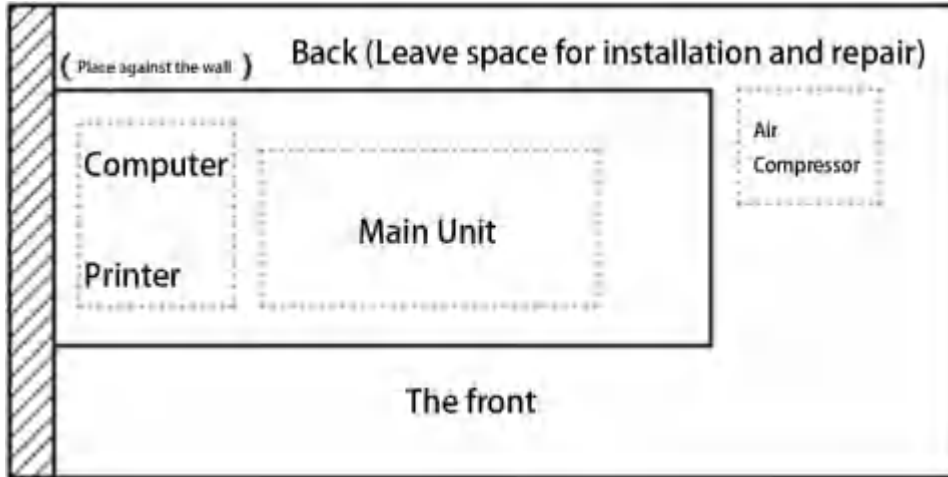

Fig. 2-1 Schematic diagram of the placement of instruments, computers and other accessories
- 8) The placement reference of instruments, accessories and computers, as shown in Figure 2.1 below.